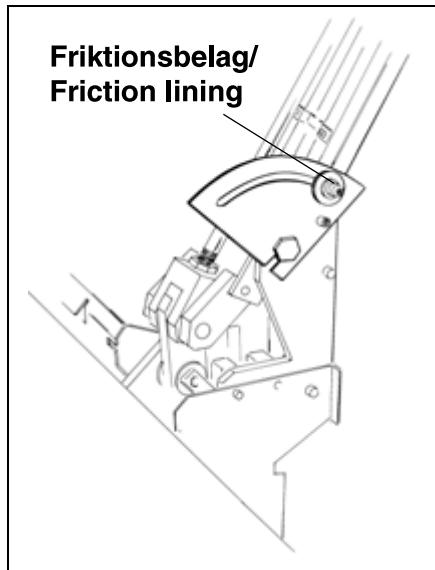

Fig. 47: *lo_arm_stability*
- Loosen the friction lining on the lower articulation (Fig. 47 / p. 57).
- Remove the screw completely (Fig. 47 / p. 57).